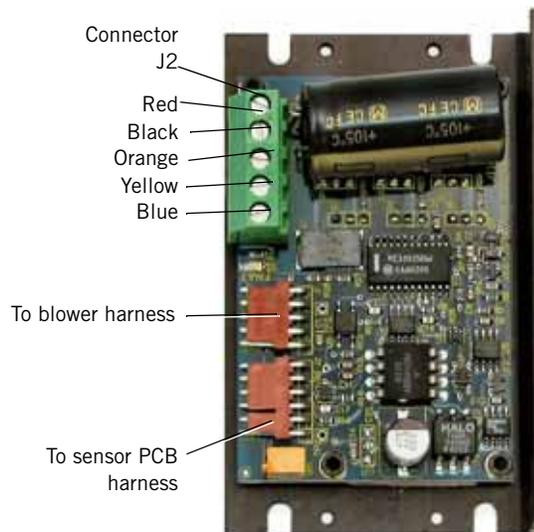

Figure 10-54: Blower Motor Controller PCB
4. Disconnect the wires from the green terminal block (connector J2) (Figure 10-54).
10. Disconnect the blower harness from its connection on the blower motor controller PCB (Figure 10-54).
4. Connect the BLOWER J1 cable from the sensor PCB to connector J2 on the blower motor controller PCB (Figure 10-54).